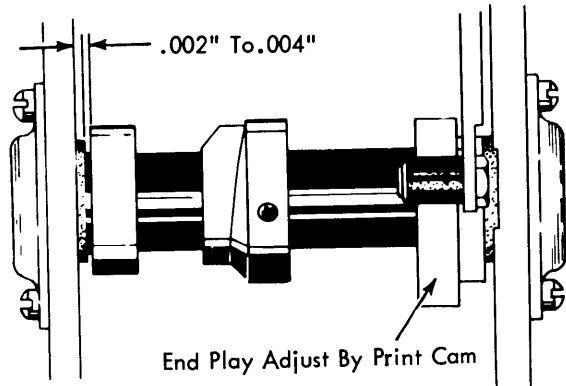

FIGURE 39. Print Sleeve End Play
8. Print Sleeve End Play - Adjust the print sleeve end play to be .002" to .004". The end play is controlled by the print cam on the right hand end of the sleeve. The adjustment should not be gained with the ribbon lift cam because its set screw tightens down into a dimple in the print sleeve fixing the position of the cam (Fig. 39).